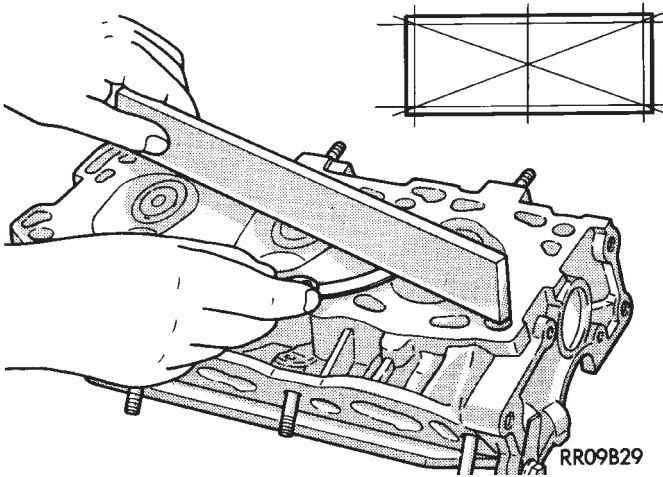

Fig. 8 Check Cylinder Head
(1) Before cleaning, check for leaks, damage and cracks.
(2) Clean cylinder head and oil passages.
(3) Check cylinder head for flatness (Fig. 8).
(4) Inspect all surfaces with a straightedge if there is any reason to suspect leakage. If out of flatness exceeds .019mm (.00075 inch). times the span length in inches in any direction, either replace head or lightly machine the head surface. As an example, if a 12 inch span is 1mm (.004 inch) out of flat, allowable is $12 \times .019\text{mm}$ (.00075 inch) equals .22mm (.009 in.) This amount of out of flat is acceptable.